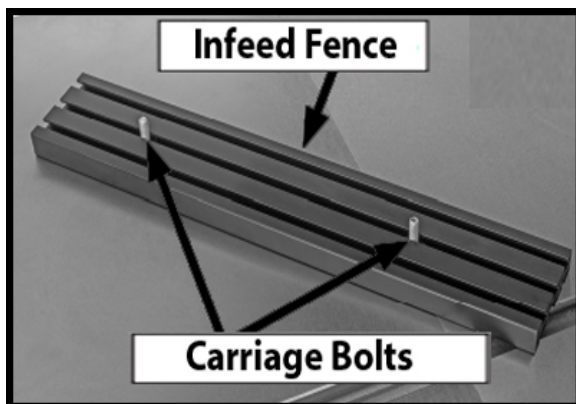
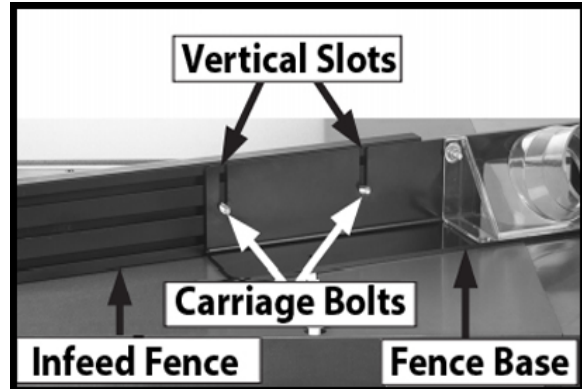
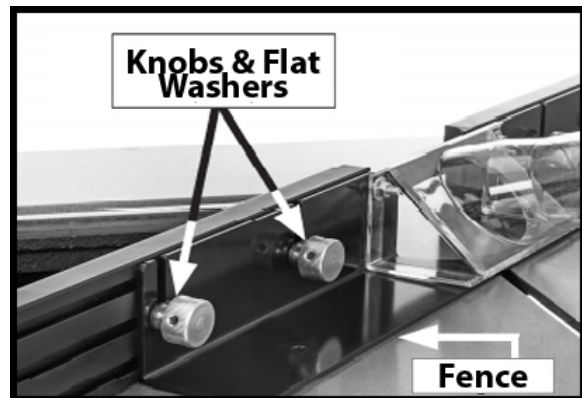

Figure 21
Figure 22
Figure 23
10. Insert (2) 1/4-20 x 3/4" carriage bolts into the centre slot of the infeed fence. (Fig.21), then align the carriage bolts to the vertical slots in the fence base (Fig.22) and secure with (4) 1/4" flat washers and 1/4-20 steel knobs as in (Fig.23)